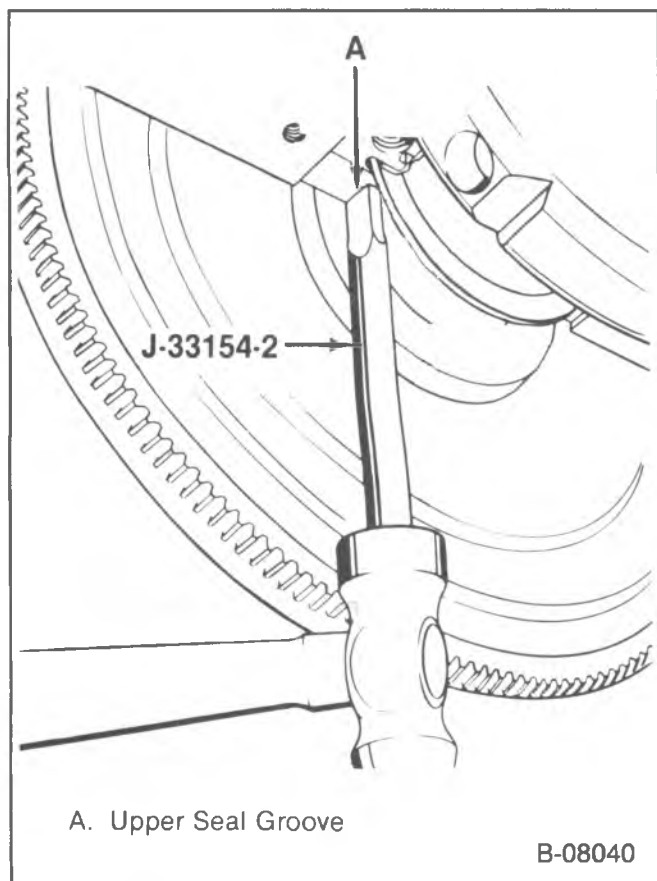

Figure 21—Packing the Upper Rear Crankshaft Rope Seal
↔ Install or Connect (Figures 21 through 24)
- Use J-33154-2 and gently drive the upper seal into the groove about 6 mm (1/4-inch). Do this on both sides. Refer to figure 21.